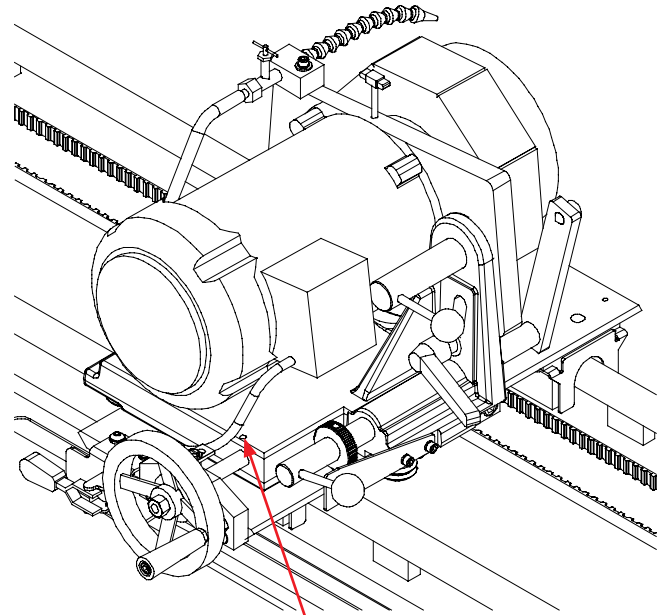

FIG. 20
If there is backlash in the Grinder Head Infeed handwheel (FIG. 20), there are two adjustment points on each to check:
2. Check the nylon ball tension on the adjustment shaft threads at the grinding head slide. See FIG.20. When you turn the handwheel there should be no free play in the handwheel before the grinding head slide moves. If there is free play, tighten the setscrew that pushes the nylon ball against the acme thread of the adjustment shaft. The nylon ball preloads the free play out of the threaded joint between the adjustment shaft and the tooling bar slide block. Apply tension only enough to zero the free play. DO NOT over tension as the adjuster will be difficult to turn.